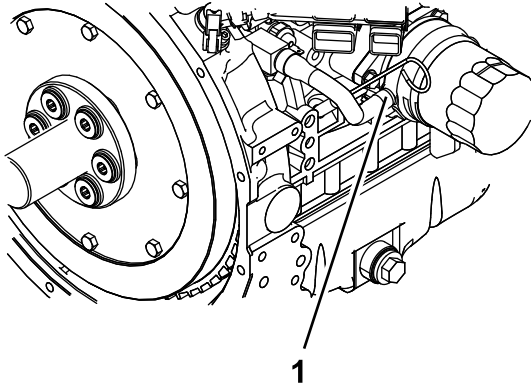

Figure 57
- Remove the coolant hose from the oil cooler and drain the coolant from the engine block (Figure 57).